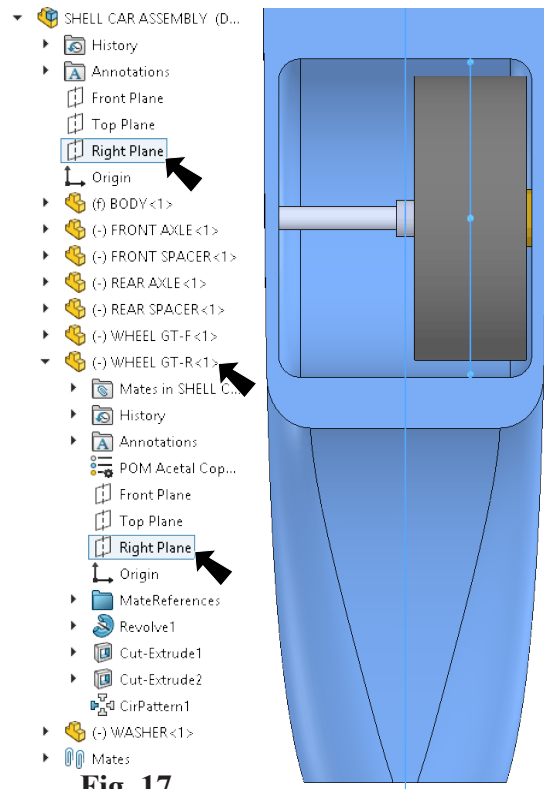

Fig. 17
Step 2. Expand flyout Feature Manager design tree and click **Right Plane** , **Fig. 17**.
Step 3. Expand **Rear Wheel GT-R** and click **Right Plane** , **Fig. 17**.